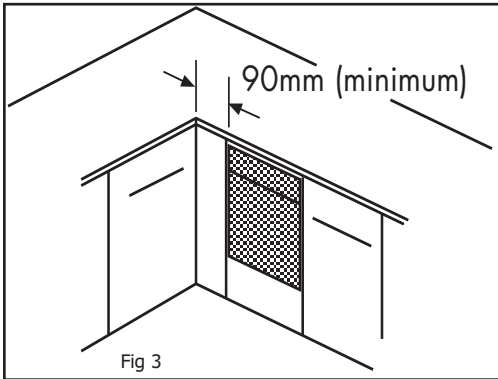

Fig 3
- If this appliance is to be installed near to a corner where the adjacent cabinets run at right angles forward of the appliance, there must be a gap of at least 90mm between the appliance and the cabinets, to prevent overheating of the cabinets (FIG 3).